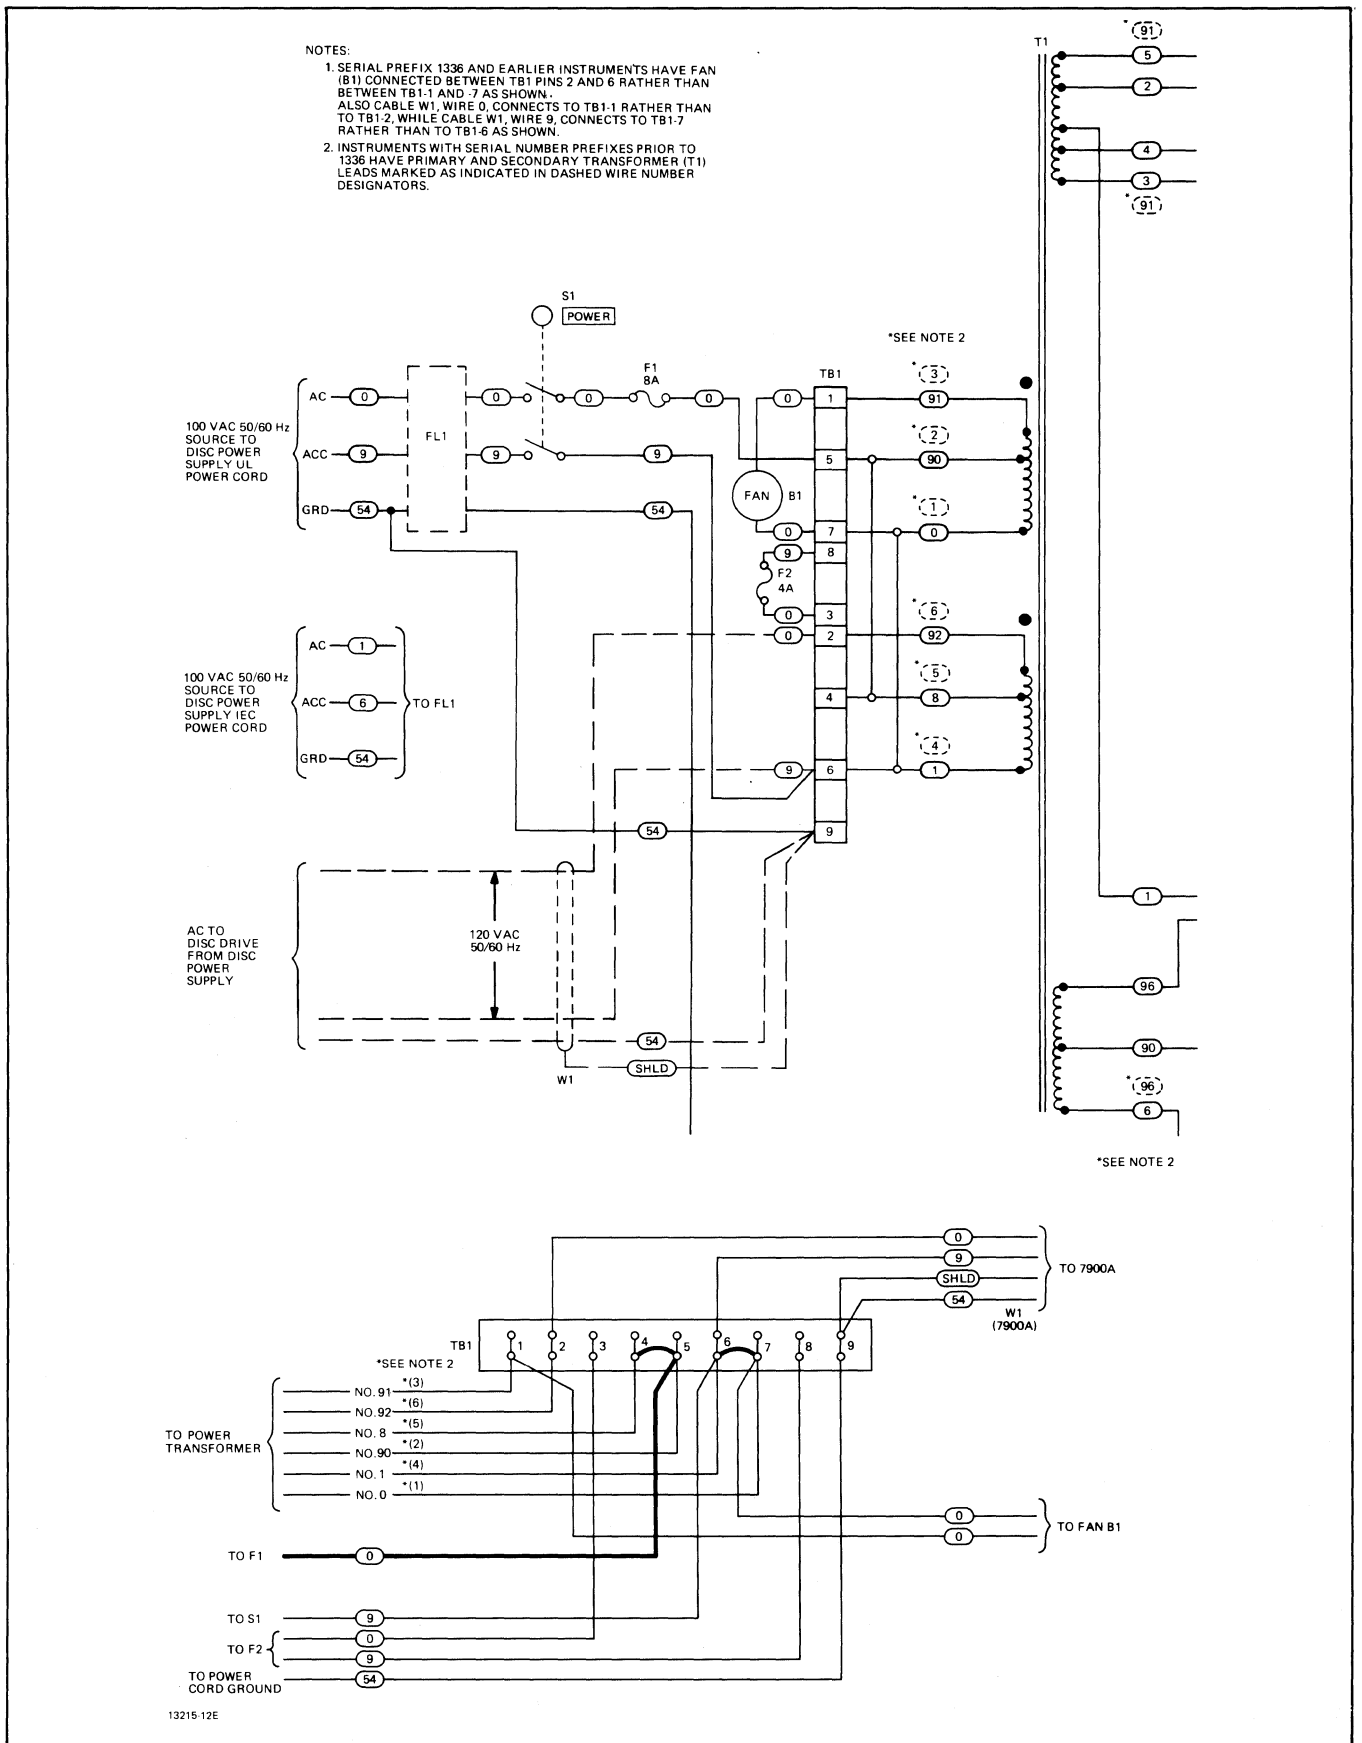

Figure 2-1. Power Supply Wiring for 100 Vac, 50/60 Hz
- 8 Changes 34 and 36 of this appendix, figures 2-1, 2-2, 2-3, 2-4, and 5-3, respectively. Reconnect green yellow wire from TB1-9 to output side of FL1.
- 16 Change 34 in this appendix, figure 2-1. Change all references to 100 Vac to read 110 Vac.
34	Pages 2-4 thru 2-7, figures 2-1 thru 2-4. Replace with figures 2-1 thru 2-4 of this appendix.